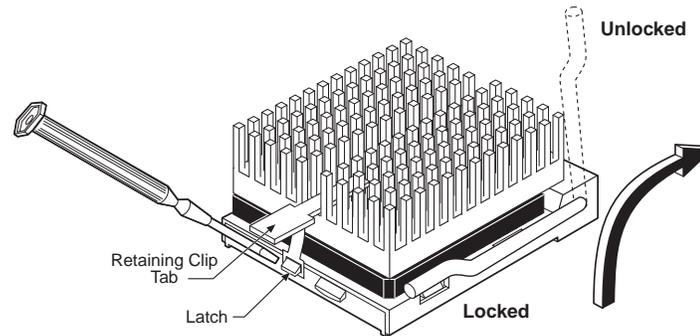

Figure 4: Removing the CPU Chip
1. Locate the Pentium CPU chip on your system board or CPU expansion card. The CPU chip will most likely have a large metal heatsink attached on top (See Figure 4 on the next page to view a standard heatsink). **Note:** some system manufacturers also include a cooling fan on top of the heatsink.
1. **Remove the Heatsink Retaining Clip:** If your CPU has a heatsink similar to the illustration below, it is most likely secured with a retaining clip. Before removing the CPU chip from its socket, you must first unlatch the retaining clip by pressing down on the retaining clip **tab** (See Figure 4) then prying one side of the retaining clip **latch** using the screwdriver (provided). Try not to touch the motherboard or any other components near the socket. With the retaining clip completely removed from the heatsink, you are ready to remove the CPU chip.